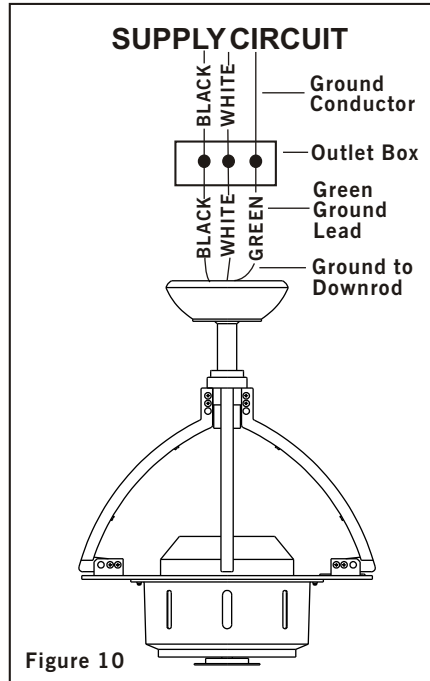

Figure 10
**Step 1** Connect the fan supply (black) wire to the black household supply wire as shown in Figure 10.